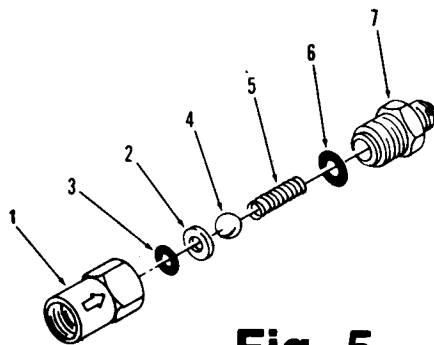

Fig. 5
- Disassemble each check valve as shown in FIGURE 5.
- Reassemble the check valves (FIGURE 5). ALWAYS INSTALL NEW BALL SEAT. Wet O-ring with clean water for easier assembly.